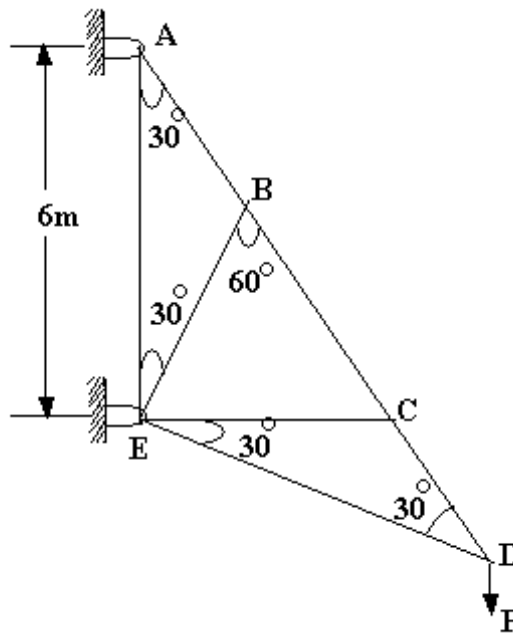

Figure 5
5. Figure 5 shows a cantilever truss ABCDE, subjected to a vertical load  $P = 100 \text{ KN}$  at joint D. Determine the forces in the members and reactions at the supports. [16]